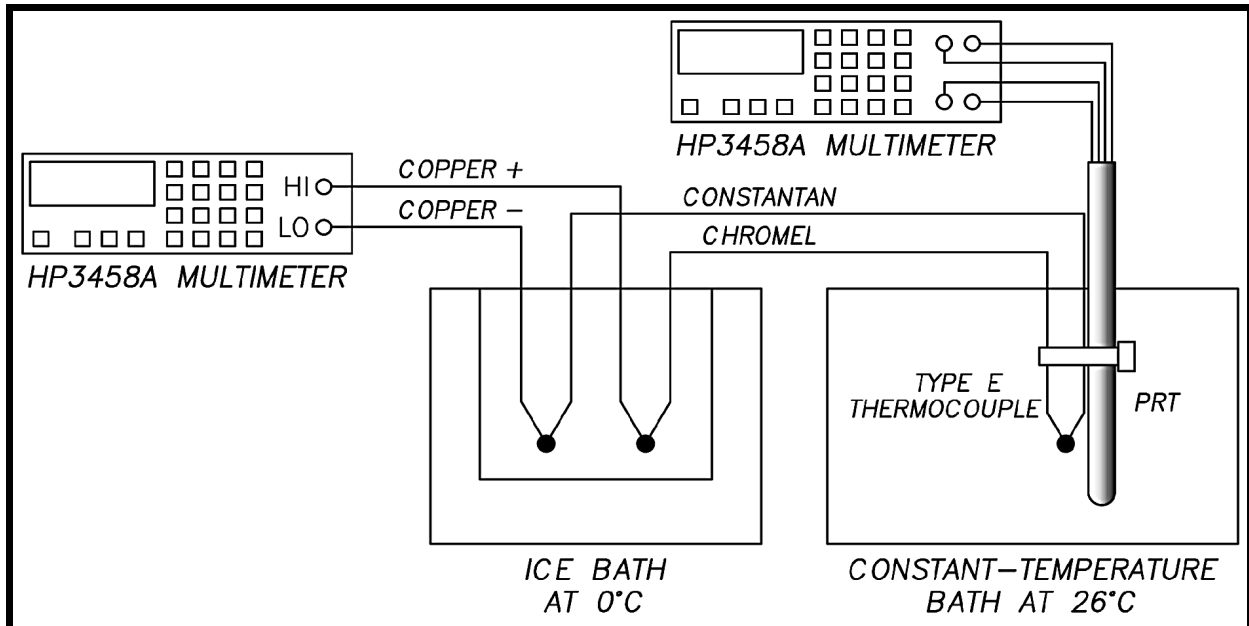

Figure B-1: Type E Thermocouple Calibration Setup
1. Using Special Limits of Error (SLE) thermocouple wire, fashion the thermocouple such that the hot junction is made by welding (or twisting and soldering) the pair of thermoelements together. If soldering, the overall length of the portion twisted and soldered should be no more than 0.25 inches. The cold junction is made with terminations to copper wire inserted in the ice-point bath. The thermocouple is calibrated with the hot junction at +26°C. See Figure B-1 for the correct setup.